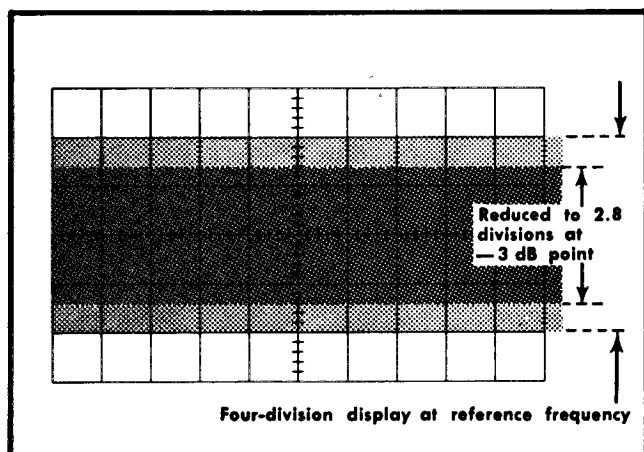

Fig. 6-24. Typical CRT display when checking vertical bandwidth (simulated waveform).
d. Without changing the output amplitude, increase the output frequency of the generator until the deflection is reduced to 2.8 divisions (-3 dB point; see Fig. 6-24).
h. Without changing the output amplitude, increase the output frequency of the generator until the deflection is reduced to 2.8 divisions (-3 dB point; see Fig. 6-24).
l. Without changing the output amplitude, increase the output frequency of the generator until the deflection is reduced to 2.8 divisions (-3 dB point; see Fig. 6-24).
q. Without changing the output amplitude, increase the output frequency of the generator until the deflection is reduced to 2.8 divisions (-3 dB point; see Fig. 6-24).
u. Without changing the output amplitude, increase the output frequency of the generator until the deflection is reduced to 2.8 divisions (-3 dB point; see Fig. 6-24).
y. Without changing the output amplitude, increase the output frequency of the generator until the deflection is reduced to 2.8 divisions (-3 dB point; see Fig. 6-24).
c. Without changing the output amplitude, increase the output frequency of the generator until the deflection is reduced to 2.8 divisions (-3 dB point; see Fig. 6-24).